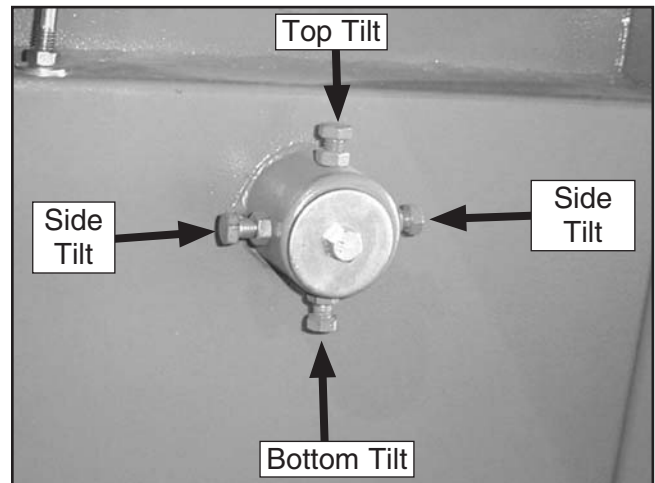

Figure 61. Lower wheel adjustment hub.
5. Adjust the tracking knob to get both wheels parallel. If the wheels won't go parallel to each other, then move the lower wheel at the adjustment hub (**Figure 61**) so they line up.